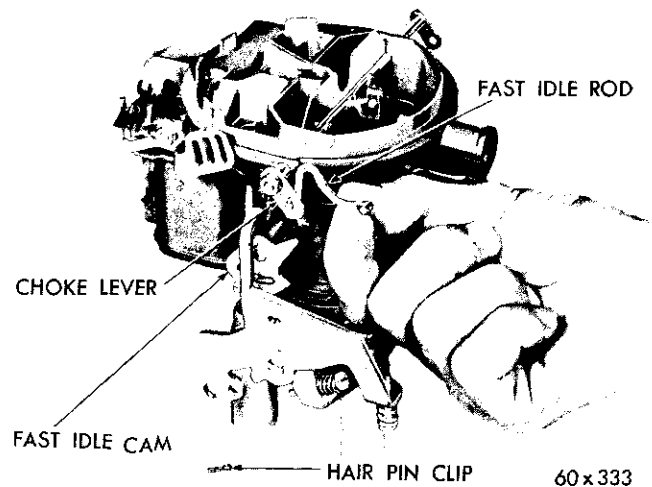

Fig. 13—Removing or Installing Fast Idle Rod
- (3) Remove the hairpin clip that holds the fast idle rod in the fast idle cam. Disengage rod from cam, then rotate rod to disengage from choke lever, as shown in Figure 13.
- (4) Remove the three short air horn attaching screws, then remove the two long air horn attaching screws next to the choke piston. Install two short